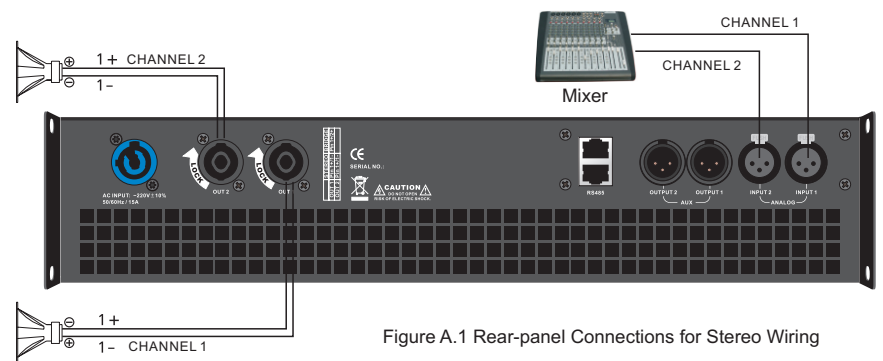

Figure A.1 Rear-panel Connections for Stereo Wiring
- 2. See Figure A.1. Connect two cables from your mixer output to the amplifier XLR input connectors.